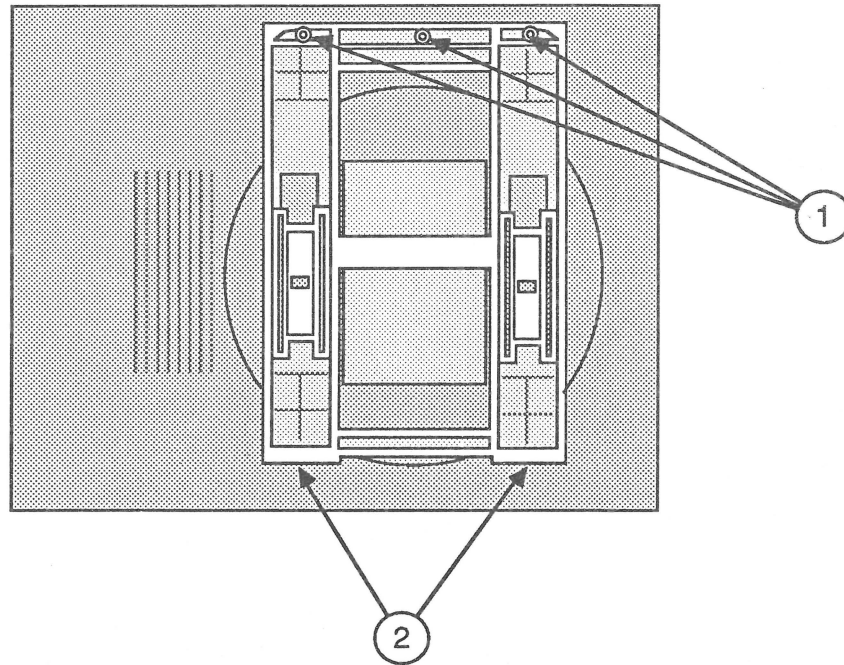

FIGURE 2
2. Holding the base of the monitor stand, you will notice that one end of the tilt-swivel mechanism has three screw holes (Figure 2, #1), and the other end has two plastic tabs (Figure 2, #2). Rotate the tilt-swivel mechanism until it is perpendicular to the base of the monitor stand.
3. Slide the two plastic tabs (Figure 2, #2) on the tilt-swivel mechanism forward into the two slots on the bottom of the chassis frame.